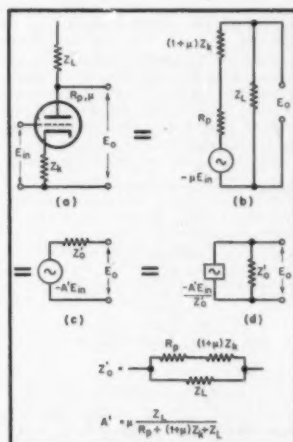

Fig. 2. Equivalent circuits for cathode current feedback.
One of the most useful applications of this equivalent circuit is to a single amplifier stage with cathode current degeneration, shown in Fig. 2. This type of stage is useful as a treble-boost circuit simply by shunting the proper capacitance across the cathode resistor. In event that Z_k consists effectively of the plate resistor and the following-stage grid resistor in parallel, and Z_k is a pure resistance it is convenient to reduce the entire circuit to a generator and a single resistance Z_k' .
This is the case when Z_L and Z_K are pure resistances. The procedure is to consider first the triode with cathode current degeneration as (A) in Fig. 2. The circuit is then reduced to a generator $-A'E_{in}$ with an internal impedance Z_o' as at (C) in Fig. 2, which can now be redrawn in the form of the original circuit, (A), but with new circuit constants. The cathode impedance Z_K is zero; the plate load Z_L is replaced by Z_o' (which combines the effects of plate resistance R_p , degeneration across Z_K , and plate load impedance Z_L); and μ is replaced by $-A'$.